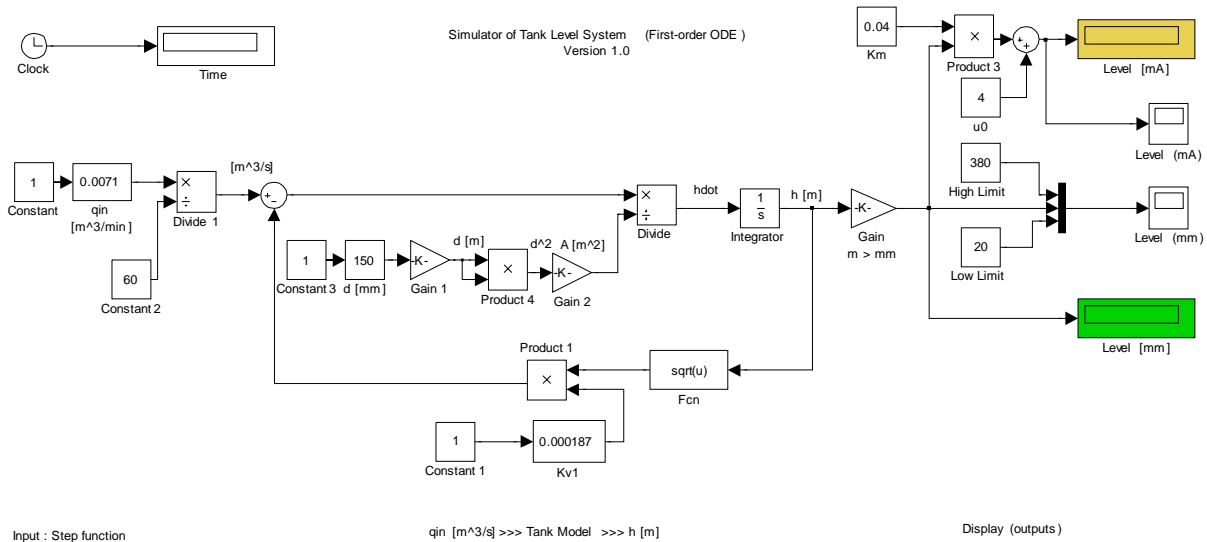

Figure 6 Simulink model to solve a first-order ODE
- Using the above block diagram and make a Simulink model for solving equation (3). The Simulink model may look like that in **Fig 6**.